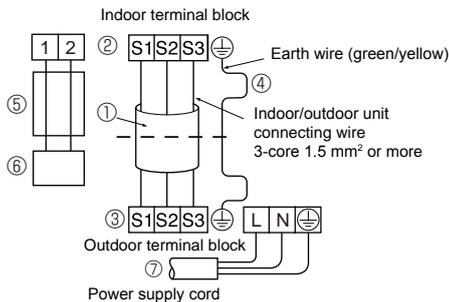

Fig. 7-2
- Perform wiring as shown in the diagram to the lower left. (Procure the cable locally). (Fig. 7-2)